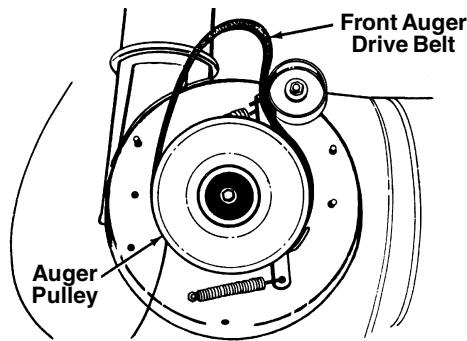

Figure 27
- To remove the front auger drive belt, push the idler pulley to the left and lift front auger drive belt from the front auger pulley. See Figure 27. Replace both auger drive belts by following the preceding instructions.